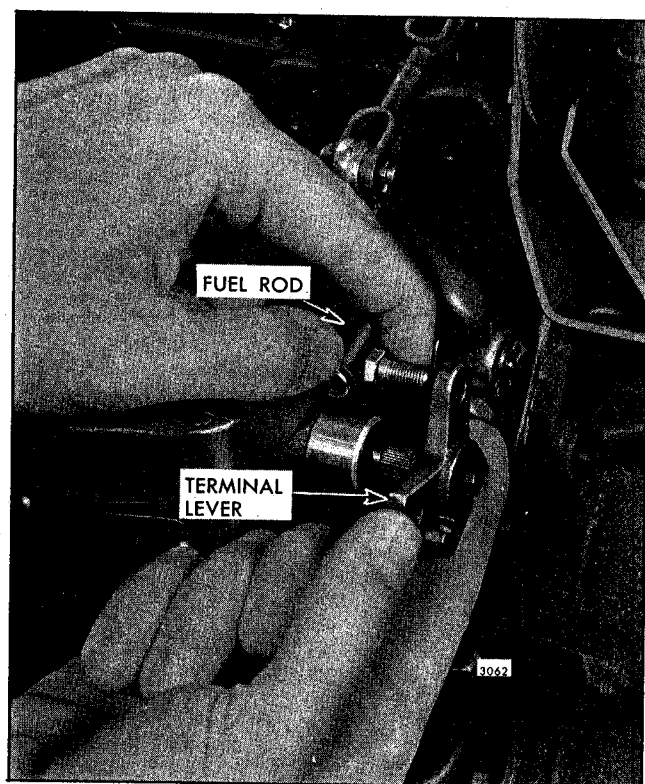

Fig. 3 - Adjusting Length of Fuel Rod
5. Hold the injector rack control tube and the terminal lever in the Full-Fuel position and adjust the length of the fuel rod until the end bearing or ball joint will slide freely into the hole of the terminal lever as shown in Fig. 3. Tighten the lock nut to retain the ball joint or end bearing and the terminal lever clamping bolt securely.